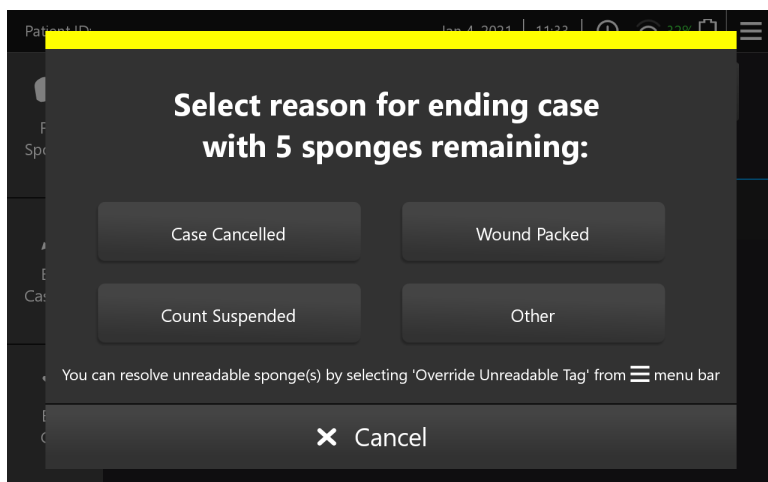

Figure 29 – Reason for Ending Case with Sponge(s) Not Counted OUT
3. Select the applicable option from the list (Figure 29).